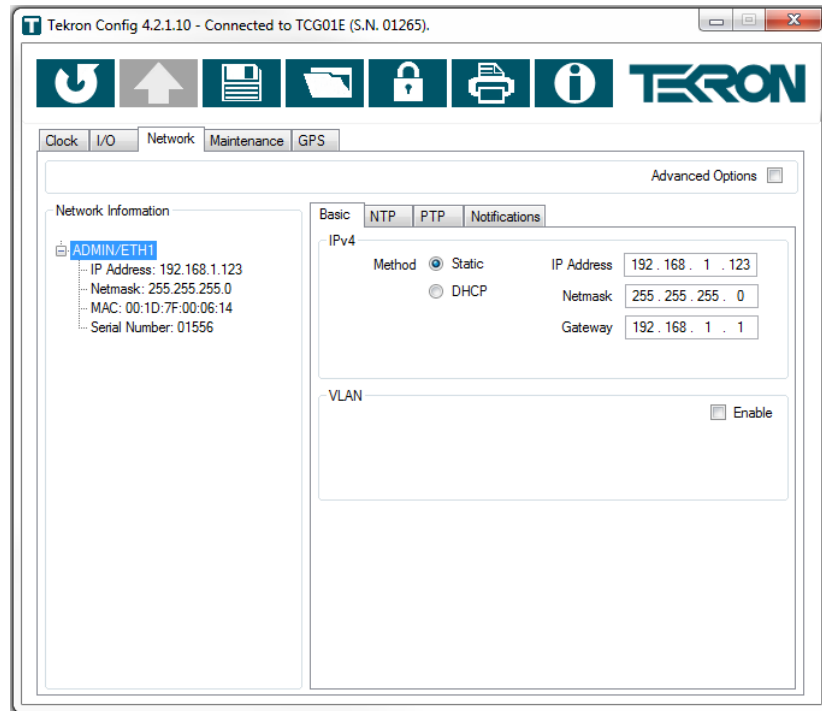

Figure 1. Setting a Static IP Address
1. **Check for Static IP Address:** Use the latest Tekron Configuration Tool to check that the clock to be upgraded has a static IP address. To check for a static IP address, go to the Basic Network Tab and check that 'Static' is selected and that a valid IP Address and Netmask have been entered (Figure 1).